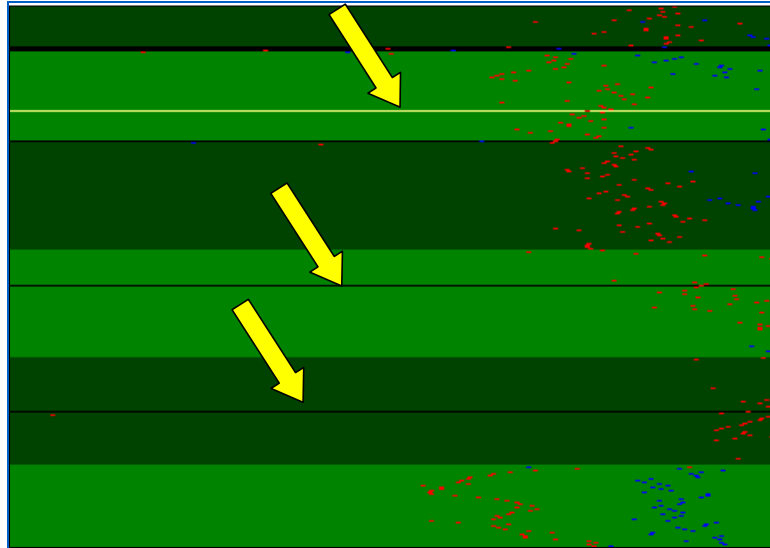

Figure 289: Mapped Channels
6. The position of the mapped out channel will be highlighted by a black horizontal line (Figure 289 shows both the moved yellow line and two black lines from previously mapped channels).